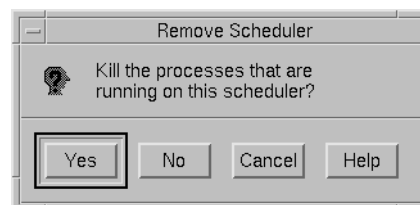

Figure 4-30. Remove Scheduler Dialog
- Displays the dialog that Figure 4-30 presents.
- Removes all processes that are currently scheduled on the scheduler from it and either terminates them or allows them to continue executing in accordance with the selections made in response to the dialog presented in Figure 4-30